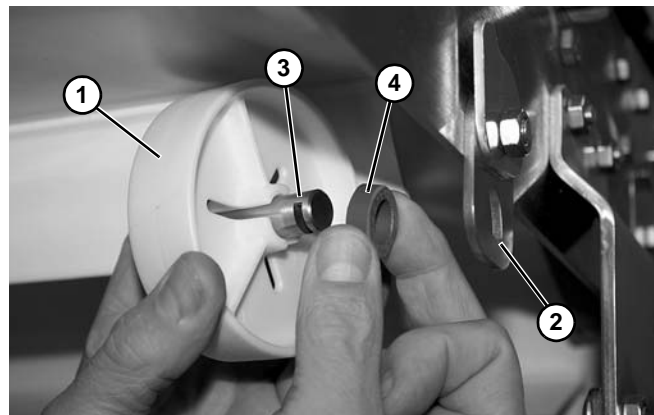

Figure 30
5. Install each puck (**Figure 30, item 1**) onto return bracket (**Figure 30, item 2**) with stub shaft (**Figure 30, item 3**) and spacer (**Figure 30, item 4**).